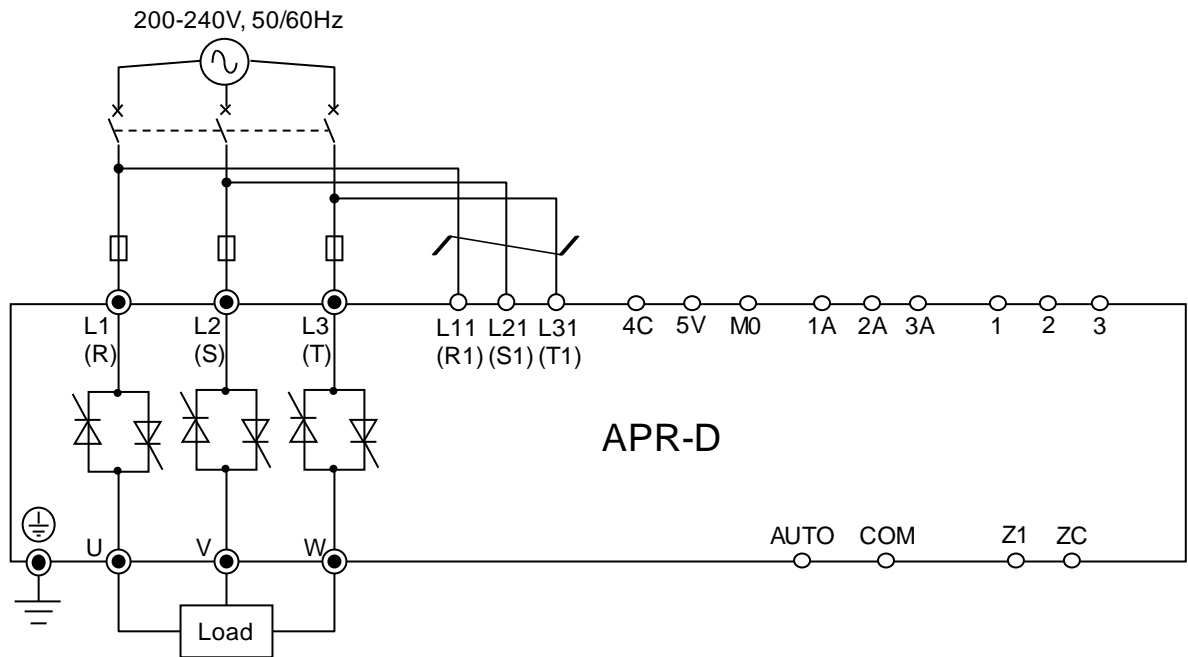

Fig.7-3 External connection diagram (200-240V)
- (1) Use the supplied screws (bolts) for main terminal [L1 (R), L2 (S), L3 (T), U, V, and W]. If screws (bolts) larger than the specified size are used, insufficient insulation from surrounding parts may result. Use an insulation cap for crimp contacts.
- (2) Use crimp contacts with insulation coating when performing wiring to terminals [L11 (R1), L21 (S1), and L31 (T1)], within the control terminal block, and ensure sufficient insulation from adjacent terminals.
- (3) To prevent noise, perform wiring to control terminal, securing sufficient distance from the main terminal [L1 (R), L2 (S), L3 (T), U, V, and W] and the input terminal [L11 (R1), L21 (S1), and L31 (T1)]. Do not place them in the same duct. If wires are to be crossed, place them so they cross at right angles. Twist wires by signal group (4 to 7 turns/10 cm). If a shielded wire is to be used, connect the shield casing to the FG terminal, and keep the other end open.
- (4) If a breaker for circuit protection is to be used on the input side of the control power, we recommend you to install it at the position shown by Figs. 7-3, and 7-4.
- (5) After the wiring is completed, return the terminal block cover back to the original position to ensure safety.
- (6) Voltage is generated at the output terminals through the internal snubber circuit even if output is not made from the APR. To prevent electric shock during maintenance and inspection, install a breaker or equivalent devices in the former stage of the APR.
- (7) Wire the control circuit terminal in the same board. When extend to the board outside, insert signal amplifiers midway, and do noise measures.